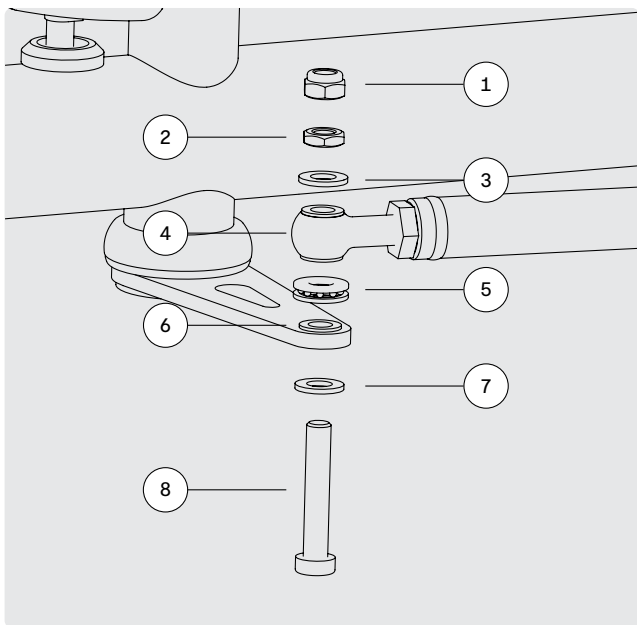

FIG. 10
- 1 Position the steering tube extension and the steering linkage eyebolt on top of each other and put the individual elements in the correct order on top of each other according the Fig. 10 on the following page.